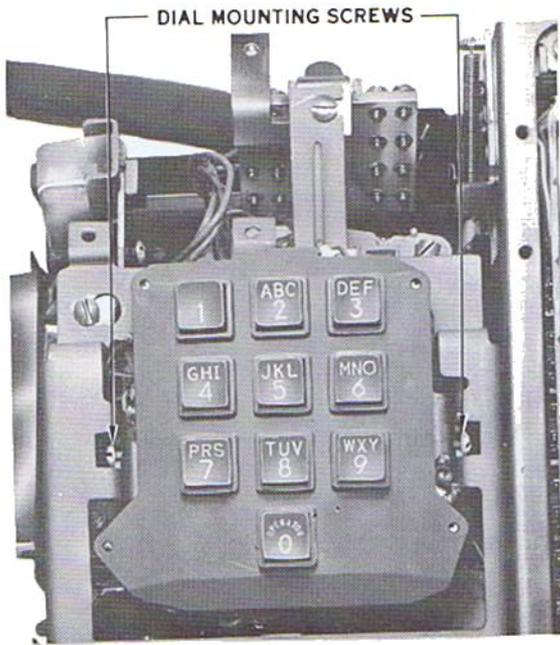

Fig. 21 - 1630-Type Telephone Set,
- (6) Remove dial mounting screws (Fig. 21).